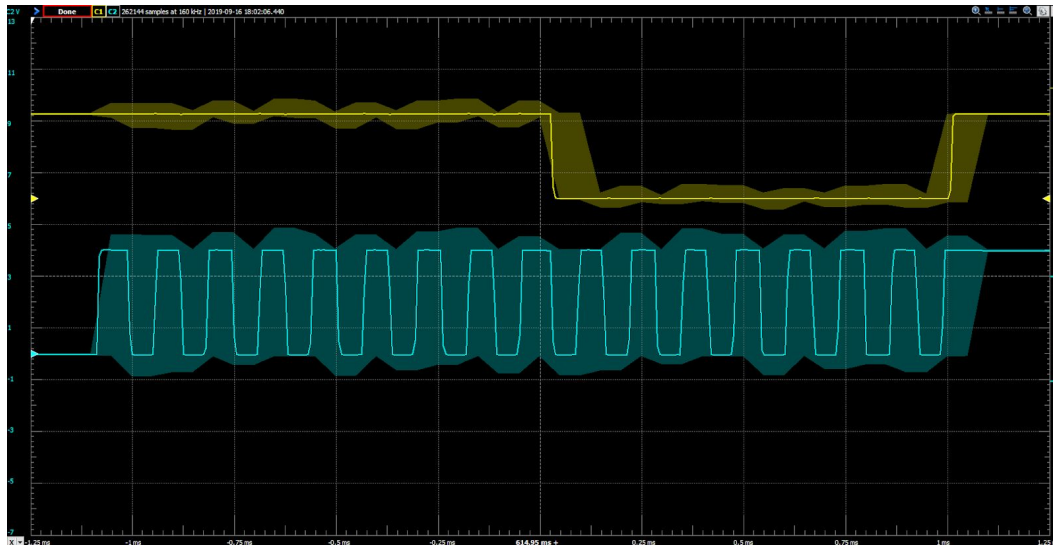
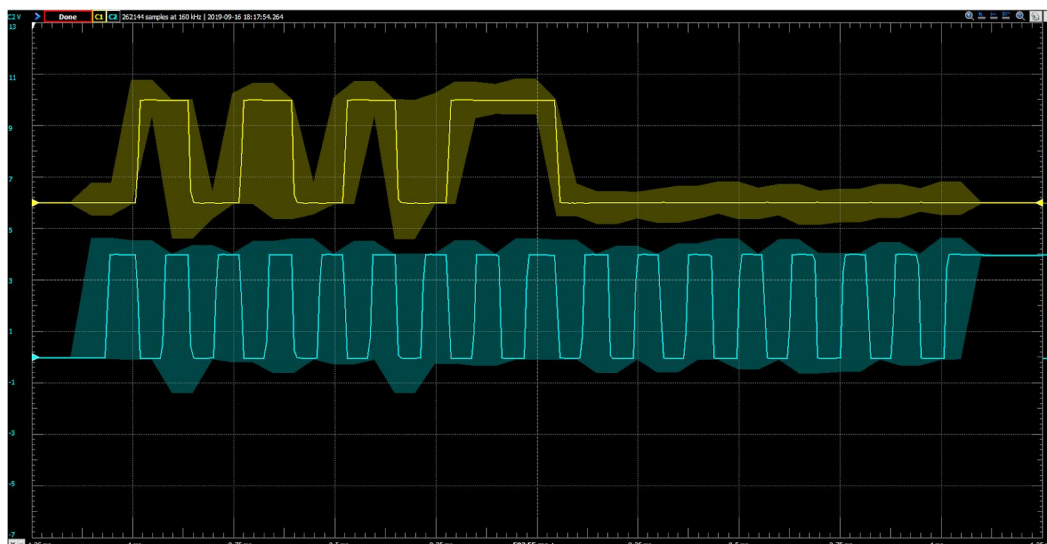
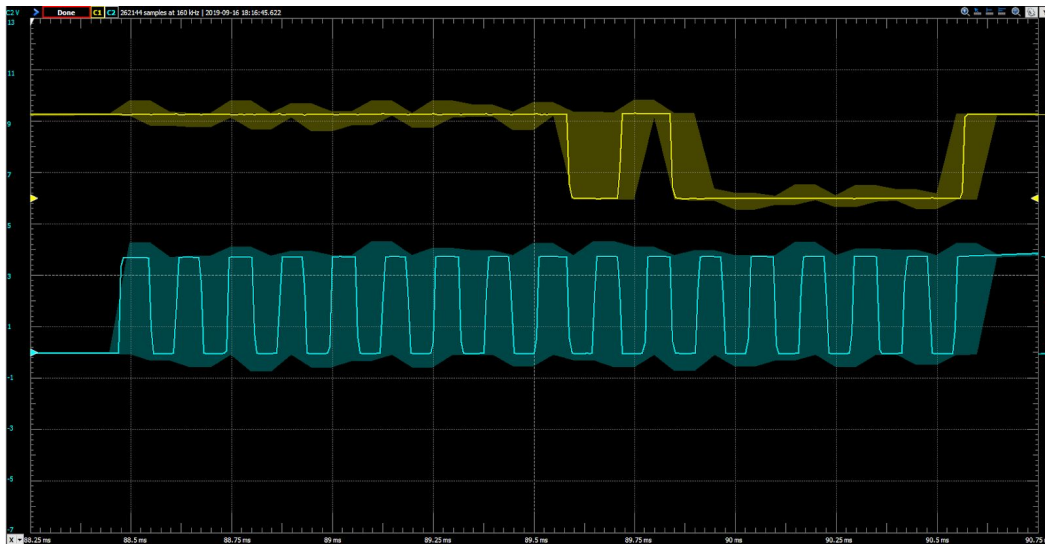

Figure 2: The SCLK and MISO signal on channel 1 and channel 2 of the oscilloscope
Figure 3: The SCLK and MOSI signal on channel 1 and channel 2 of the oscilloscope
Figure 4: The change of data pattern on MISO after tilting the board
3. Yes, it's possible to set up the oscilloscope to trigger the data bus line and decode the data. We have attached the screenshot below in figure 2. Here, the SCLK clock is triggered at the rising edge of the overall clock of the board which is 1Hz.
4. Yes, the general data packet format is 8 bit. We observe 16 clock cycles in the SCLK. Last 8 clock cycles are used to send data using MISO pin and first 8 cycles are used to send data from ATmega16 to accelerometer using MOSI pin. We have attached two screenshots in figure 2 and figure 3 to show that. We tilted the tilted the position of the board and observe the change of the data on the MISO pin. Initially, it was “00000000”. But the other data are “11000101”, “00000010” and “01000000” in figure 4, 5 and 6 respectively.